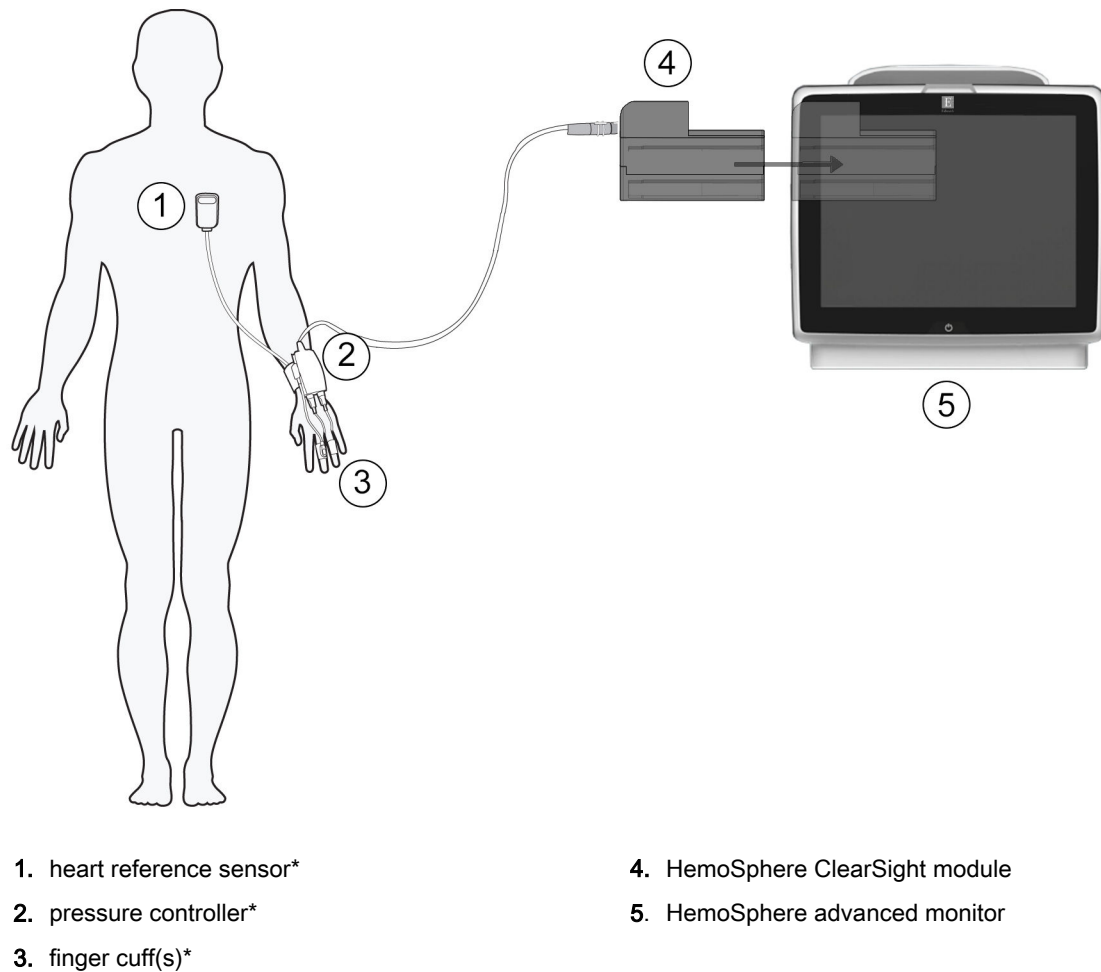

Figure 11-1: HemoSphere noninvasive system connection overview
The HemoSphere noninvasive system is composed of the HemoSphere advanced monitor with ClearSight module and connected pressure controller, heart reference sensor, and compatible Edwards finger cuff(s). See system connections in Figure 11-1 on page 191. Accurate measurement of the patient's blood pressure and key hemodynamic parameters is based on the Volume Clamp method, Physiocal method and ClearSight algorithm.
The HemoSphere ClearSight module is compatible with all approved Edwards finger cuffs. See Figure 11-1 on page 191 for an overview of the HemoSphere noninvasive system connections.
Components indicated by * in Figure 11-1 on page 191 legend are APPLIED PARTS as defined in IEC 60601-1 that in normal use necessarily come into physical contact with the patient for the HemoSphere noninvasive system to perform its function.
3. Attach the pressure controller cable to the HemoSphere ClearSight module. (Figure 11-1 on page 191)